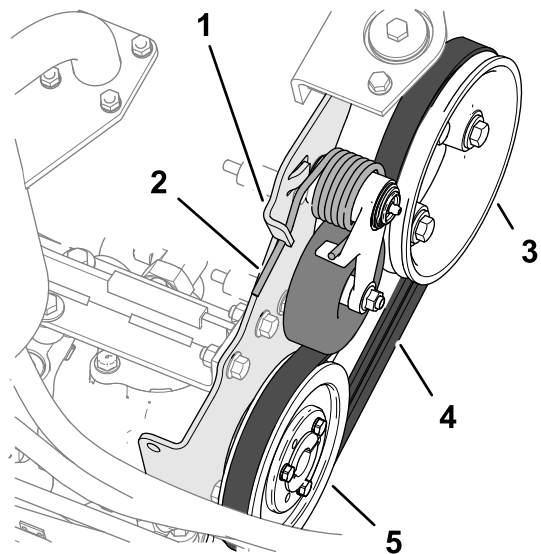

Figure 79
2. Push down the end of the belt-tension spring down and out of the notch in the tab of the pump mount, and move the spring end forward (Figure 79).